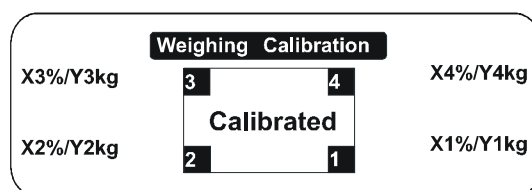

Figure 9
- Install the covers (4), (5) and (6). In case that the machine is placed in a hygienic barrier, install also the sealing profile (7).
- Check and if necessary adjust the height of the load sensor feet so that an even load distribution among all the load sensors is ensured - see Figure 9.